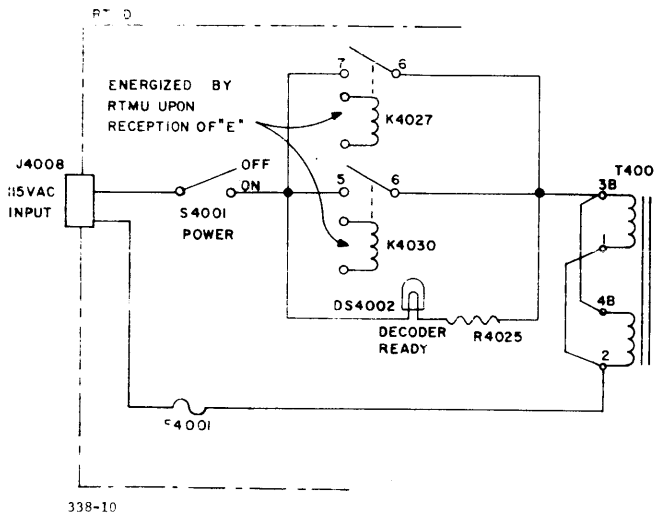

Figure 4-2. Simplified Schematic, Energization of RTTD by RTMU
b. APPLICATION OF POWER. - The remote tuning feature of the DDR is enabled by application of line voltage to Signal Data Converter-Storer RTMU, Receiver Decoder RTTD, and Remote Gain Control RGCB through their respective POWER switches. Line voltage to the RTMU immediately energizes the readback circuits; logic voltages are also supplied to the RTMU's memory circuits, preparing it for reception of the first code. When the POWER switch of the RTTD is set at ON (see figure 4-2), the line voltage lights the DECODER READY lamp. Full line voltage is not connected across the primary of power transformer T4001 in the RTTD until the circuit is completed through contacts of energized relay K4030 and power lock-up relay K4027. These relays only energize when the RTMU receives the (10000) code at the end of a tuning message.